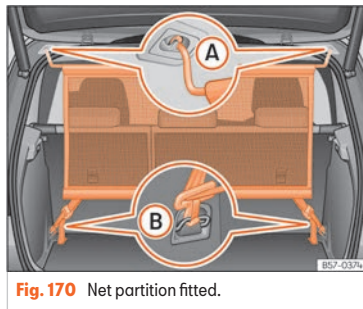

Fig. 170 Net partition fitted.
- Hook the net partition to the left-hand side roof housing >>> Fig. 170 A. Be sure to pull the cross rod down past the upper position.
- Hook in the net partition on the rear right-hand side roof housing by pressing on the bar >>> Fig. 170 A.
- Secure two hooks of the partition net to the fastening rings of the boot >>> Fig. 170 B and tighten the straps firmly.